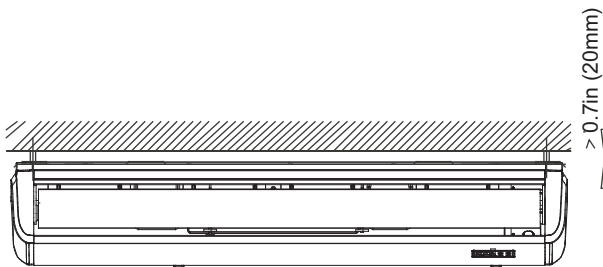

Fig. 16 — Install the unit
4. Install the unit (see Figure 16).